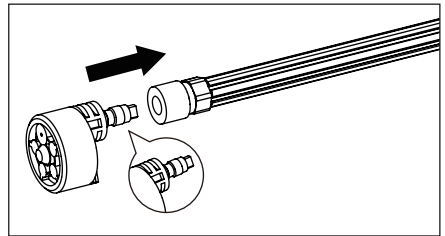

Fig. 3
2. Pull down the top of the nozzle adapter, insert the multi-spray nozzle, and release. (Fig. 3)